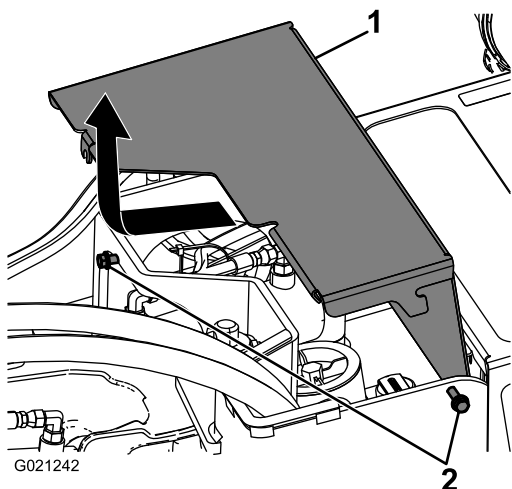

Figure 24
3. Loosen the 2 bolts securing the front cover to the machine (Figure 24).
4. Slide the cover forward slightly and pull up to remove the cover (Figure 24).
5. To install the front cover, slide the front cover into place and tighten the 2 bolts that you loosened previously (Figure 24).